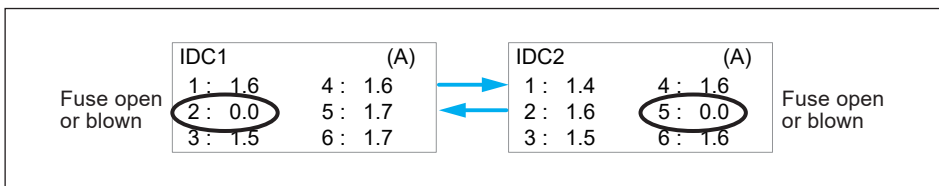

Figure 5-9 : String monitor
1. Check “Power meter/string monitoring” page on the LCD display, to determine if any string current measurement is zero, which will most probably indicate a blown fuse. (**Figure 5-9**)